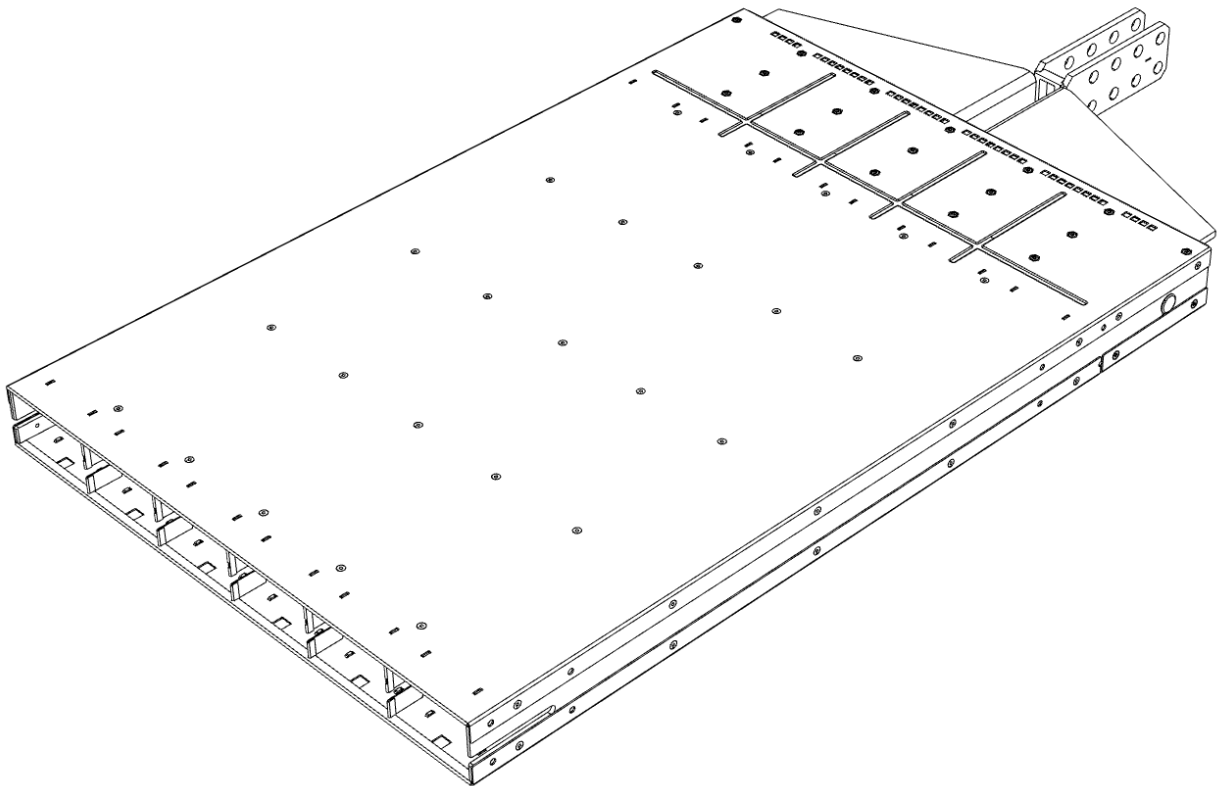

Figure 8. SPSPFE3-04G Isometric View
5) Added Key-In features inside shelf divider (see figure 8).
2) Key-In features were adjusted to include the side of the shelf in addition (see figure 8).